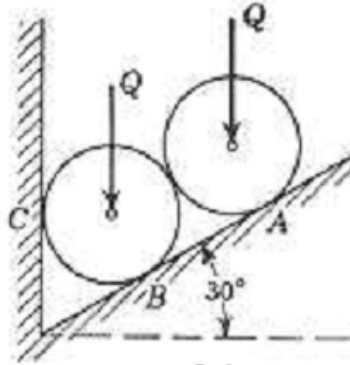

Fig. 1
b) Two identical rollers, each of weight 100 N, are supported by an inclined plane and a vertical wall as shown in Figure 1. Assuming smooth surfaces, find the reactions induced at the points of support A, B and C. [8]